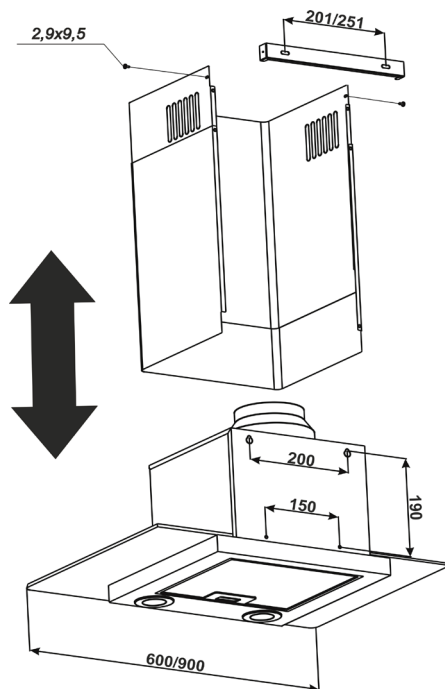

Fig. 4
6.4 Mark fixing points on the kitchen wall. For this purpose, make a paper template with the coordinates of 4 holes on the back panel of the housing (points A, B, C, D; see installation diagram); attach the template to the wall at the required height specified earlier and level it (Fig. 4).
6.9 Install the telescopic chimney casing on the hood housing. Lift the top panel of the casing with the bar to the ceiling so that it covers the ventilation duct, and mark **2 holes for fastening (points E, F)** in accordance with the slots of the bar (**Fig. 4**).
6.13 Install the outer panel of the chimney casing into the grooves on the hood housing, and lift the inner one upwards to align the mounting holes with the bar and connect the sides with **2 pan-head screws 2.9x9.5 (Fig. 4)**.